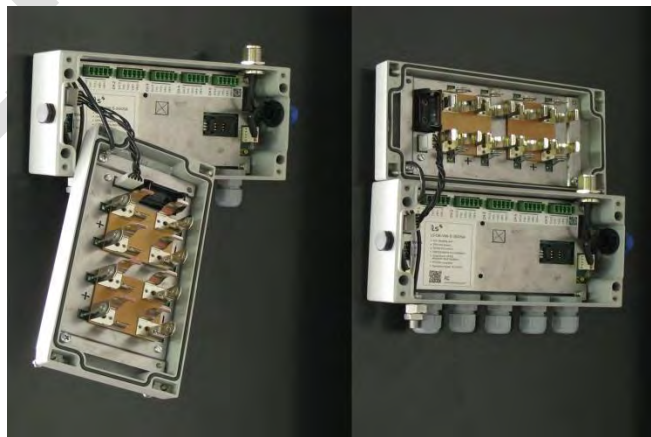

Figure 1: View of the recommended positions to open the datalogger.
- Open the datalogger (using allen wrench -2.5 mm-) following the recommended positions (Figure 1) in order to avoid damaging the lateral gore valve. The batteries are held on the cover, so be careful not to snap the cable between the cover and the main board.